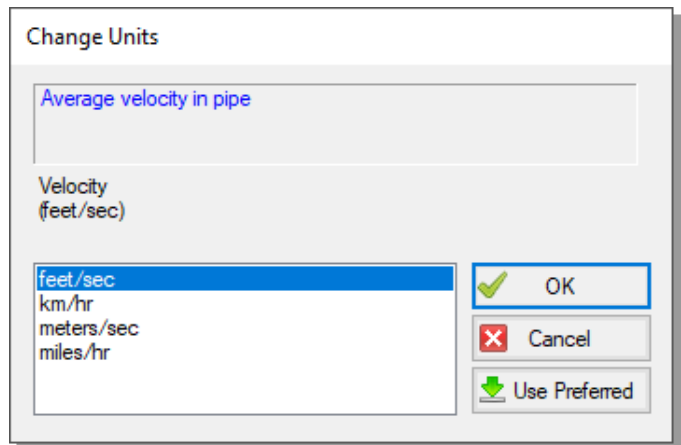

Figure 2.26 Open the Change Units window from the Output window tables by double-clicking the column header
- **Lastly, double-click the column header for Velocity on the Output window Pipe Results Table.** This opens a window to change the units of the column without opening the Output Control window (see Figure 2.26). These changes are automatically updated in the Output Control window. Keep the selected units as is, and click OK to close the window.